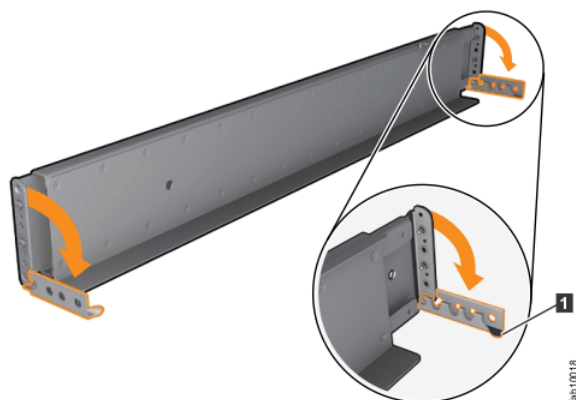

Figure 27. Opening the hinge brackets
6. At each end of the rail, grasp the tab **1** and pull *firmly* to open the hinge bracket (see Figure 27 on page 68).